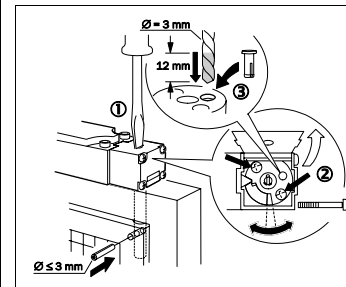

Fig. 5: Fixing the switching angle
- Make hole for locking pin \varnothing 3 mm, 12 mm deep (see Fig. 5).